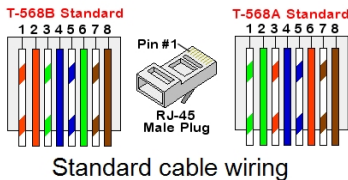

Figure 19: Standard cable wiring
- c. Insert the eight wires into an RJ45 connector, as described in *Figure 19*.
7. For the switch/router side, use a pre-terminated cable or use a crimper to prepare an RJ45 communication connector: Insert the eight wires into the RJ45 connector in the same order as above (*Figure 19*).